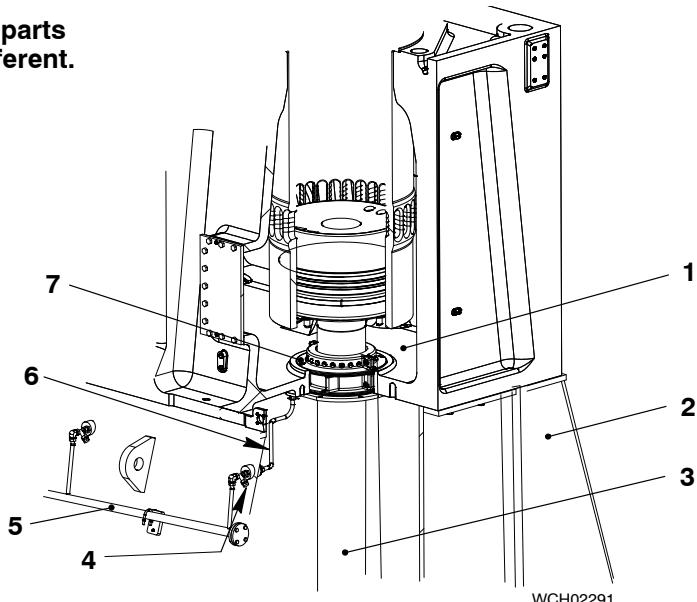

Fig. 1: Piston Rod Gland Box – Location
The piston rod gland (7, Fig. 1) keeps the dirty oil in the scavenge space (1) and prevents contamination of the bearing oil. Also, the piston rod gland seals the scavenge air from the crankcase (2).